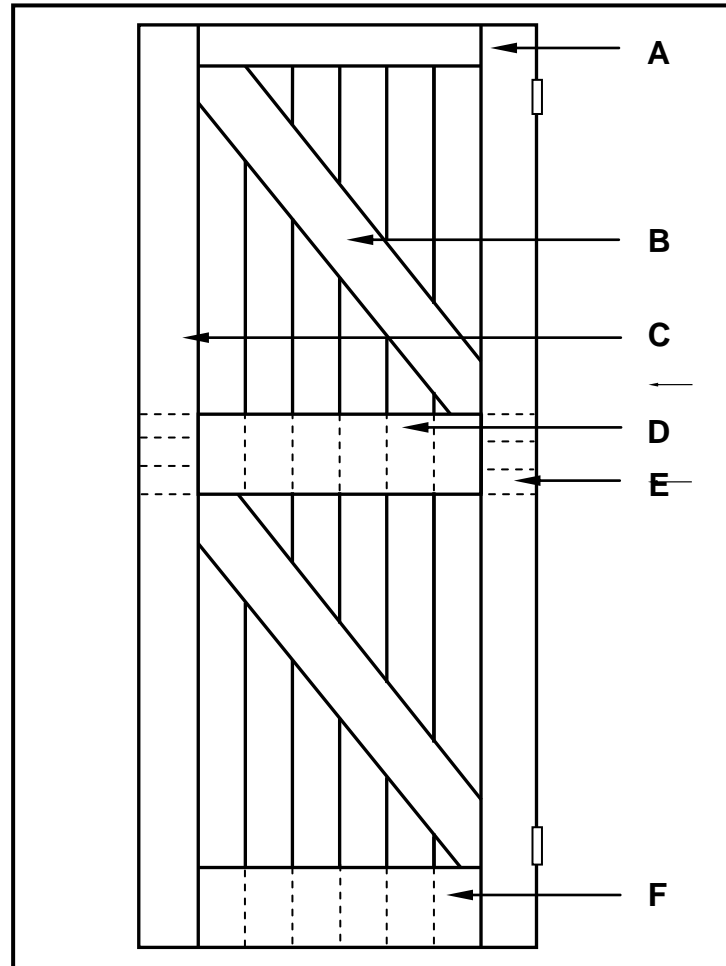

FIGURE 6.4
6.4 FIGURE 6.4 below shows the inside elevation of a framed ledged and braced batten door with hinges. Study the drawing and answer the questions that follow.